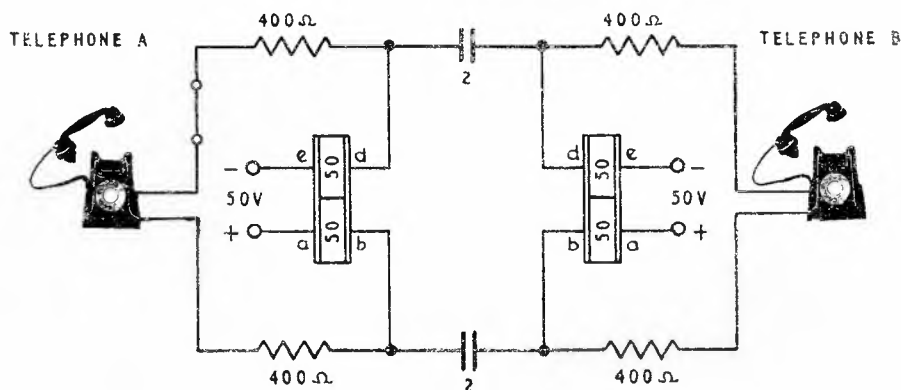

FIG. 1.
STEP 1. Connect the circuit as shown in Fig. 1.
1. Redraw Fig. 1 and on it indicate -